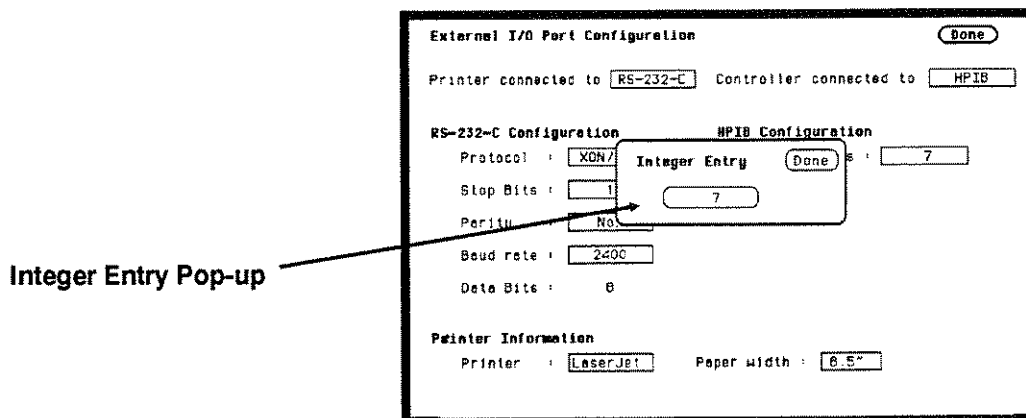

Figure 5-15. Integer Entry Pop-up
1. Select the External I/O Port Configuration menu and place the cursor in the field directly to the right of **HP-IB Address:**. Press **SELECT** and an Integer Entry pop-up appears. See figure 5-15.